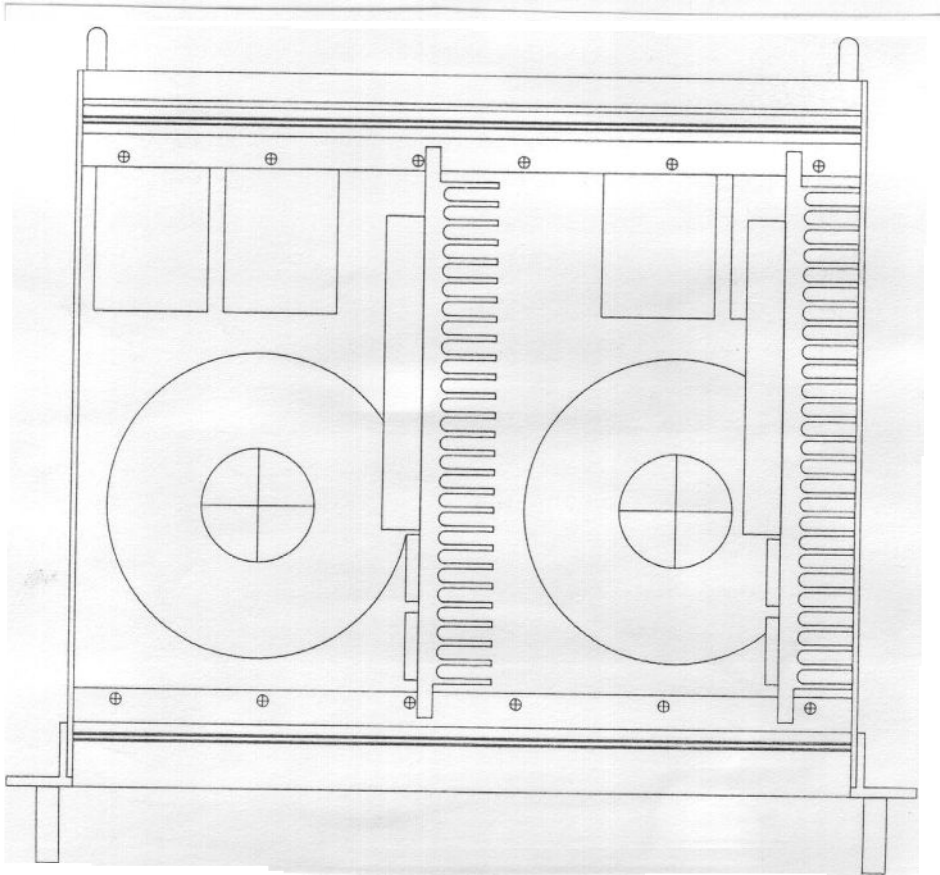

Fig. 19 New set up for adjustments
**Important:** Notice in figure 19 that for adjustment purposes of the new PPA, the amplifier modules are lifted to the right, in stead of to the left.